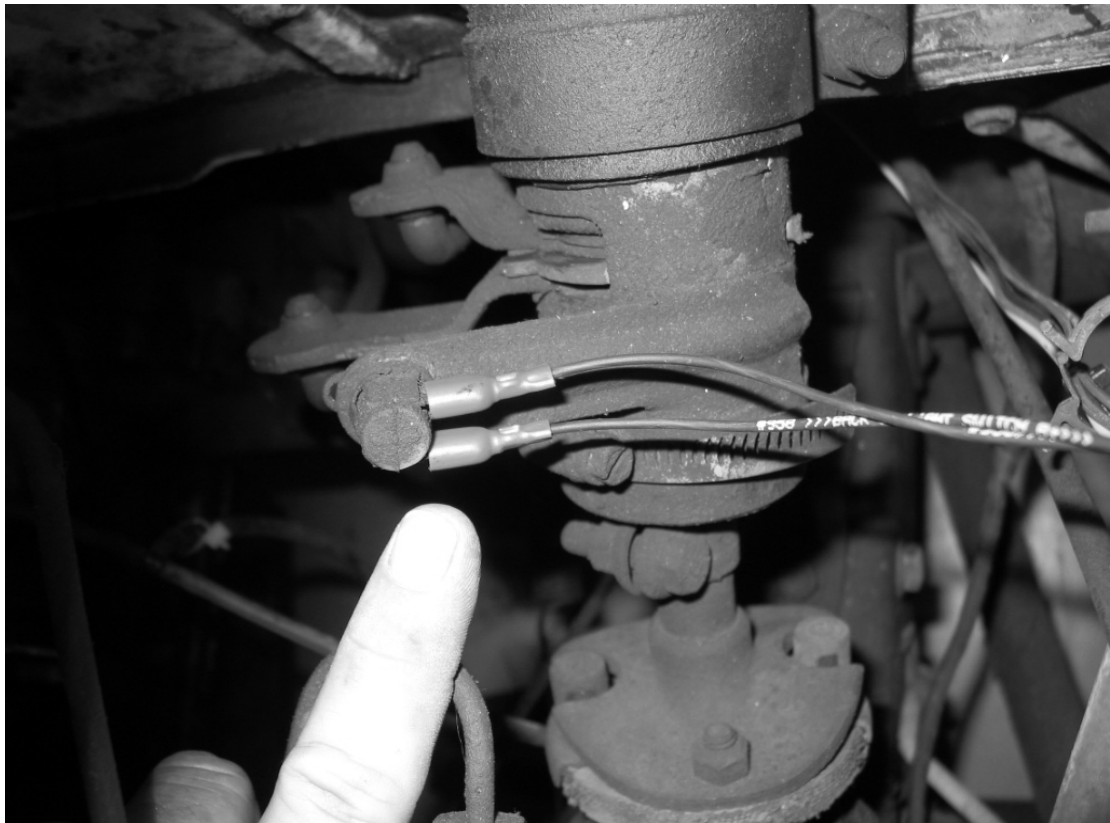

Figure 7-11 NEUTRAL SAFETY SWITCH (All Models with Standard Trans)
- 7.3.7** If the truck being rewired had a standard transmission, wire #'s 956 and 958 will need to be routed thru the firewall and to the backup light switch on the shift linkage. **See Figure 7-11. Important:** Early Standard Transmission Trucks **do not** have neutral safety switches. This means the two #919 wires in the same breakout as #956 and #958 will need to be connected together with a butt splice.